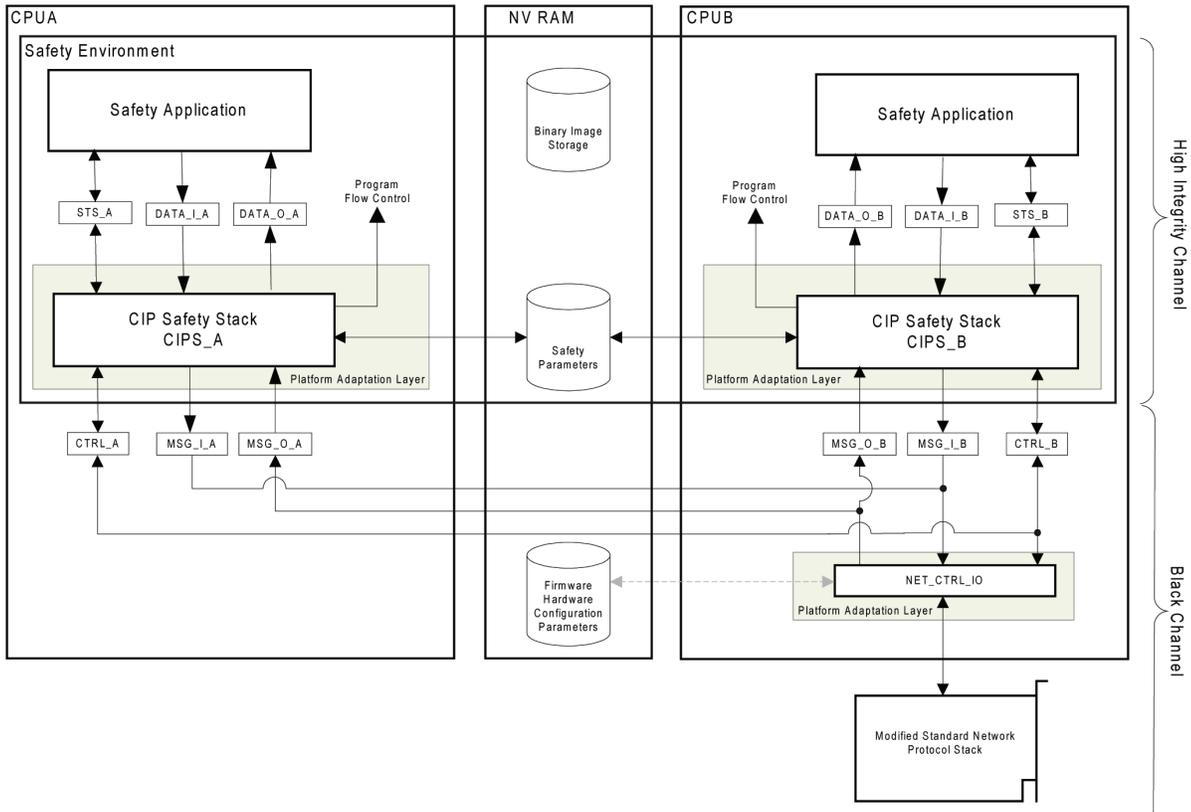
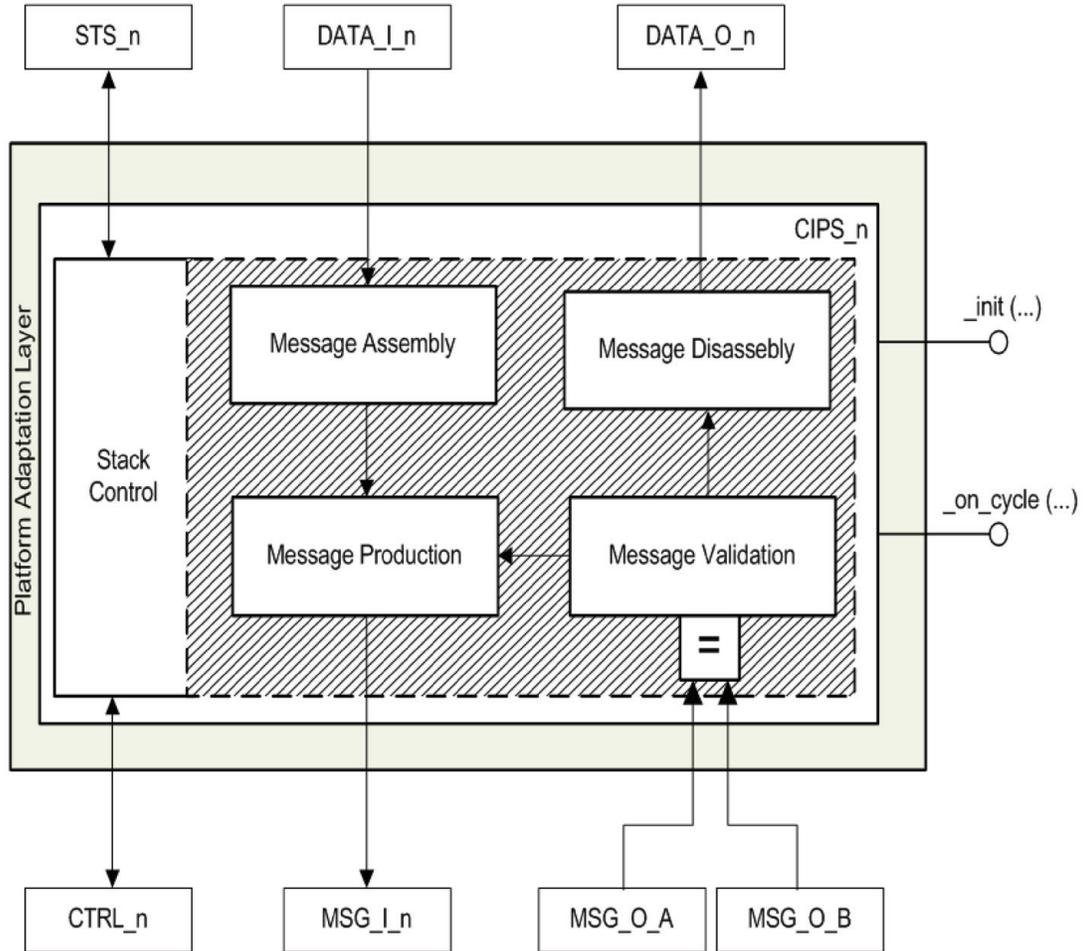

Figure 10
Figure 11
A wrapper around a generic CIP Safety stack (shown as the Platform Adaptation Layer in Figure 10 and Figure 11) provides translation facilities allowing for interfacing of generic toolkit code with functions provided by vendor's platform (including interfacing to safety related functions).
- **EtherNet/IP Device Interoperability Test Tool (EDITT)** is a PC/Windows™-based software application that automates sections of the EtherNet/IP Interoperability Test Procedure, version 1.2. This test procedure is published by ODVA EtherNet/IP Implementors Workshop and performed during PlugFest interoperability testing. EDITT (Figure 10) is available from Pyramid Solutions (www.pyramid-solutions.com). EDITT provides EtherNet/IP I/O Server, I/O Client, Message Server and Message Client functionality. EDITT is capable of originating a variety of I/O connections based on the connection configuration set by the user. EDITT is compatible with Rockwell Software's RSNetWorx for EtherNet/IP for local or remote network configuration.